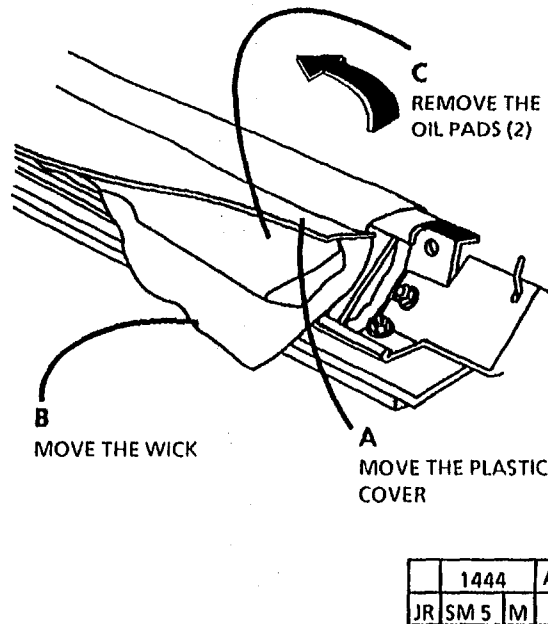

Figure 1. Remove the Oil Pads
2. (Figure 1): Remove the oil pads.